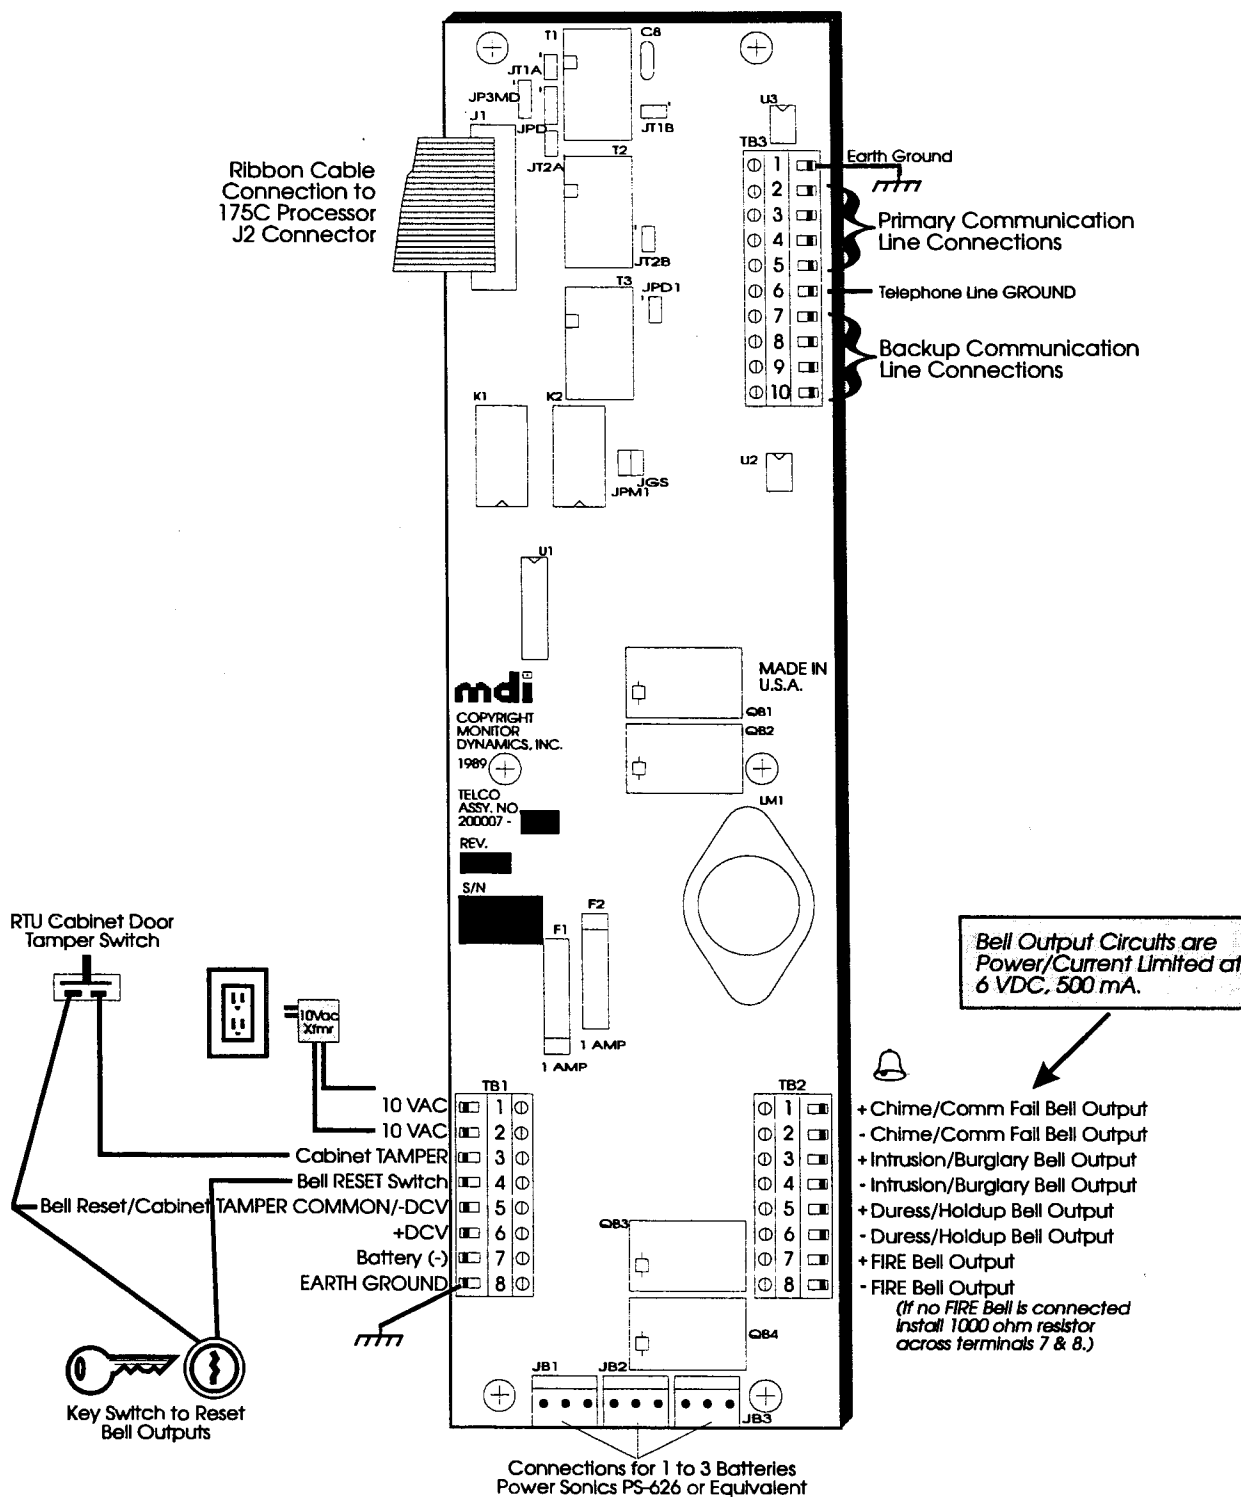

Figure 3-4. TELEPHONE INTERFACE (TELCO) BOARD
2. Pull in a 2-conductor, minimum 22 AWG cable and connect to terminals TB1-1 and TB1-2 of the TELCO board (See Figure 3-4). Connect the other end of the cable to the 10 VAC, 16 VA transformer to be used for powering the RTU. Ensure proper length of the cable.
The Telephone Interface Board (see Figure 3-4), typically referred to as the TELCO Board, is a standard part of every RTU-100/190/200. This board serves as the source of power generation and distribution throughout the entire RTU cabinet. It also serves as the communication board for 2-wire and 4-wire Multiplex, Differential, and Dial communications, as well as providing controlled bell output contacts. There are a number of different versions of the TELCO board available (-0 through -4), each version based on communication options offered in the RTU. RTU panels and TELCO boards must be ordered with the specification of the type of primary and secondary communication lines to be used (i.e., DIFF, MUX, DIAL, RS-232). Refer to the following pages for details on the different communication techniques and wiring terminations for the TELCO board. Figure 3-4 shows each of the board's Terminal Blocks and connections.
The TELCO board provides the data communication line connections for the RTU panel via TB3, terminals 2-5 for the Primary communication line, and terminals 7-10 for the Secondary, or Backup communication line (see Figure 3-4). As previously stated, there are a number of different versions of the TELCO board in order to support the variety of communication line arrangements which are available for the RTU, including:
Local bells are connected to the TELCO Board TB2 (see Figure 3-4) using 22 AWG (minimum) stranded 2-conductor cable. Cut the appropriate length of cable and connect one end to the bell unit. Run the cable through one of the knockouts or conduit and terminate to the TELCO board TB2 as detailed below for each output, ensuring proper DC voltage polarity is observed.
Each RTU-100, RTU-190, and RTU-200 enclosure includes one or two tamper switches factory installed and connected to monitor the opening of the cabinet door. The tamper switches are wired in series and factory connected across TB1-3 and TB1-5 of the TELCO Board (Figure 3-4). Additional switches from auxiliary cabinets could be added to the series loop, if desired.